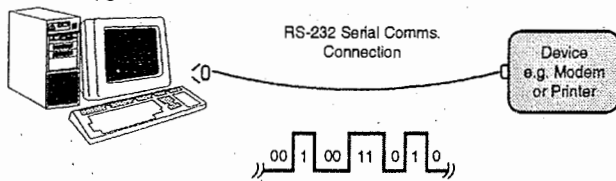

Fig. 12.3.1
- Fig. 12.3.1 shows a PC connected to a device such as a modem or a serial printer using the RS-232C connection. In a modern PC the RS-232C interface is referred to as a COM port.